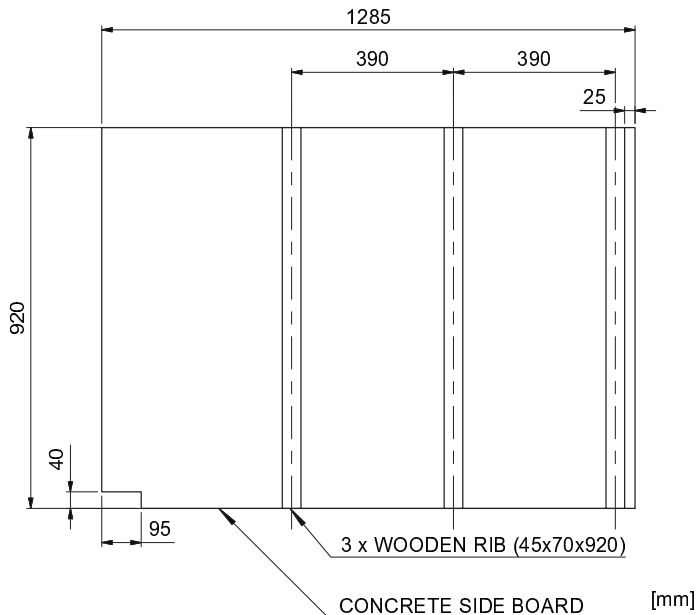

Figure 19. *Dimensions for the concrete side board.*
- 4.2 Cut twelve 70x45 wooden ribs to 920 mm in length and four pieces of 18 mm Formwork Plywood, complying with EN 636-3, to the format 1285x920 mm and cut out a notch in one corner as shown in Figure 19. Make four similar side board units according to these instructions, and then fix the ribs to the boards with wooden screws as in Figure 19.